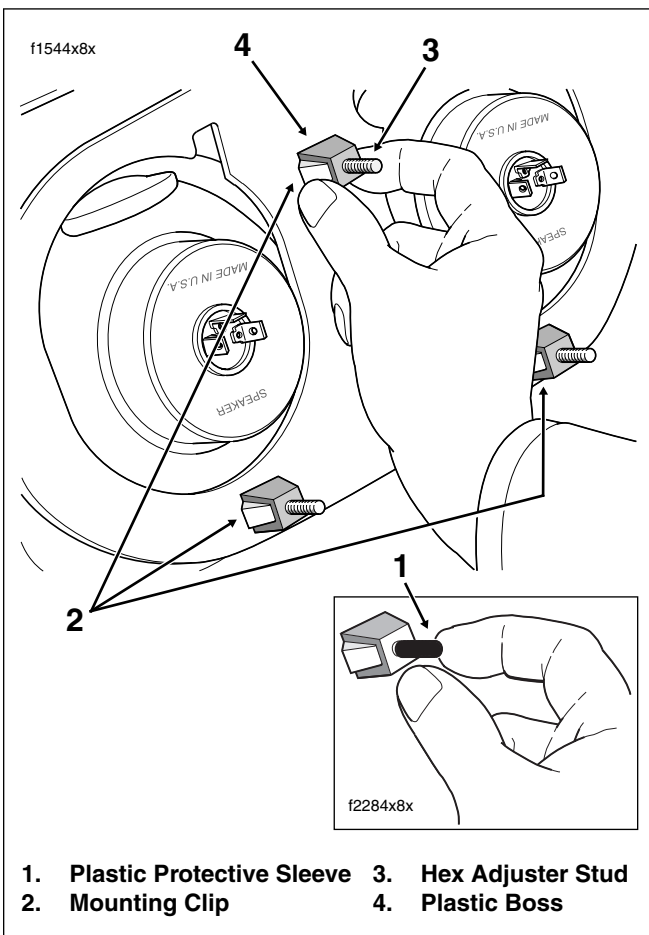

Figure 8-28. Depress Mounting Clips
5. Remove plastic protective sleeve from top center hex adjuster stud. See inset of Figure 8-28.
6. Depress mounting clips on all three hex adjuster studs and pull headlamp assembly out front of outer fairing. See Figure 8-28.
To avoid cutting or chafing wires, be sure to install plastic protective sleeve on top center stud of headlamp assembly. See inset of Figure 8-28.